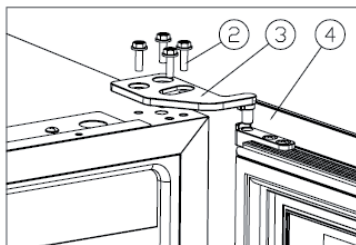

Figure 1
2. Unscrew the M5 x 16 screws **(2)**, dismantle the right upper hinge and remove the door (see figure 1).